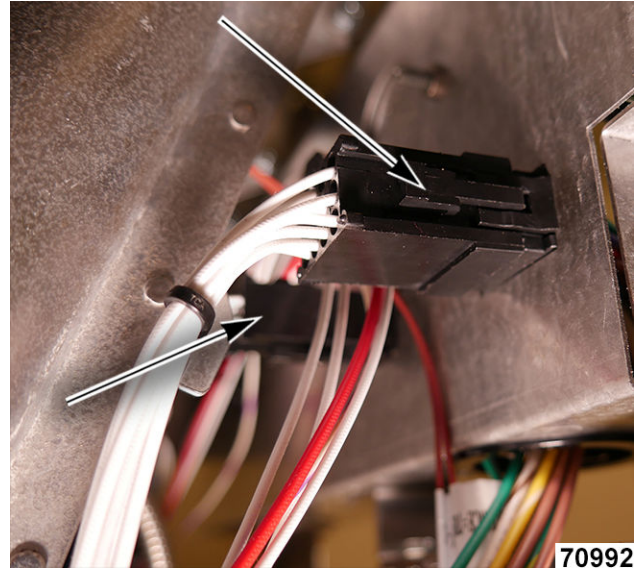

Fig. 13
5. Unclip wiring harnesses from rear of heat shield (Fig. 13).
11. Connect wiring harnesses to rear of heat shield (Fig. 13).